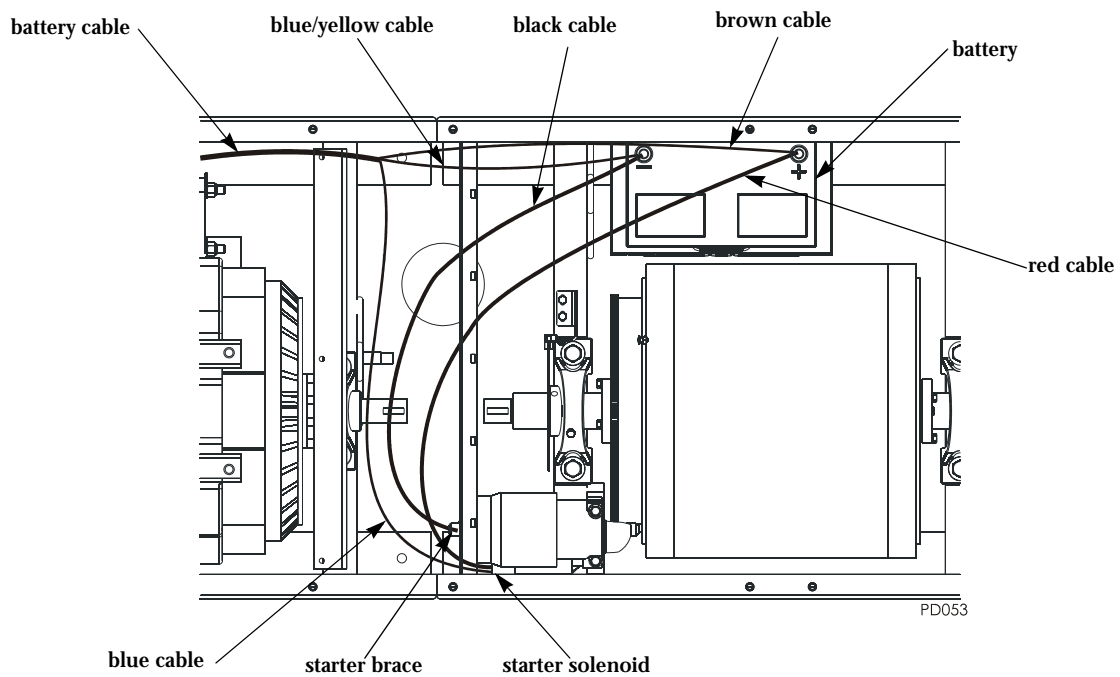

Figure 1-22: Attach the Brake and Starter Cables
- 2 Route the battery cable (P/N 76950312) from the CPI through the same conduit and over to the battery. Refer to the steps and Figure 1-22 on page 1-24 for instructions on connecting the battery and starter cables.